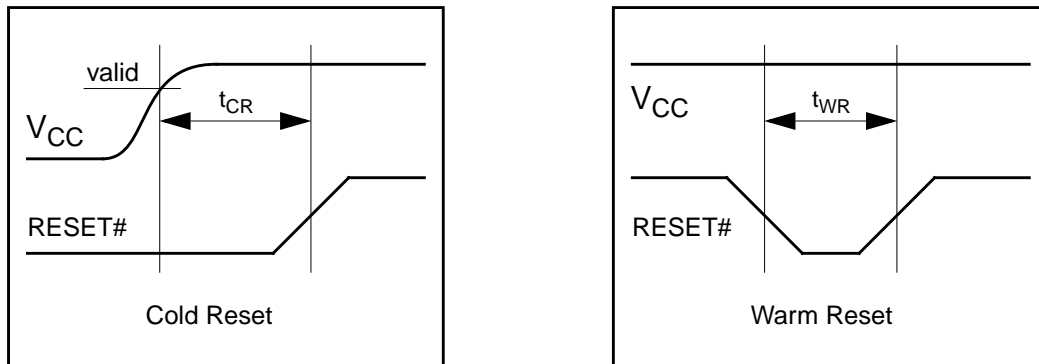

Figure 13: Timing for CC770 reset
1. Cold reset means, that V_{CC} is driven to a valid level while RESET# is asserted. In this case, RESET# must be driven low for t_{CR} minimum (measured from a valid V_{CC} level) to ensure the oscillator and the PLL are stable, see figure 13. No falling edge on the Reset pin is required during cold reset phase.
3. Warm reset means, that V_{CC} remains valid while RESET# is asserted. In this case, RESET# must be driven to a low level for t_{WR} minimum, see figure 13.